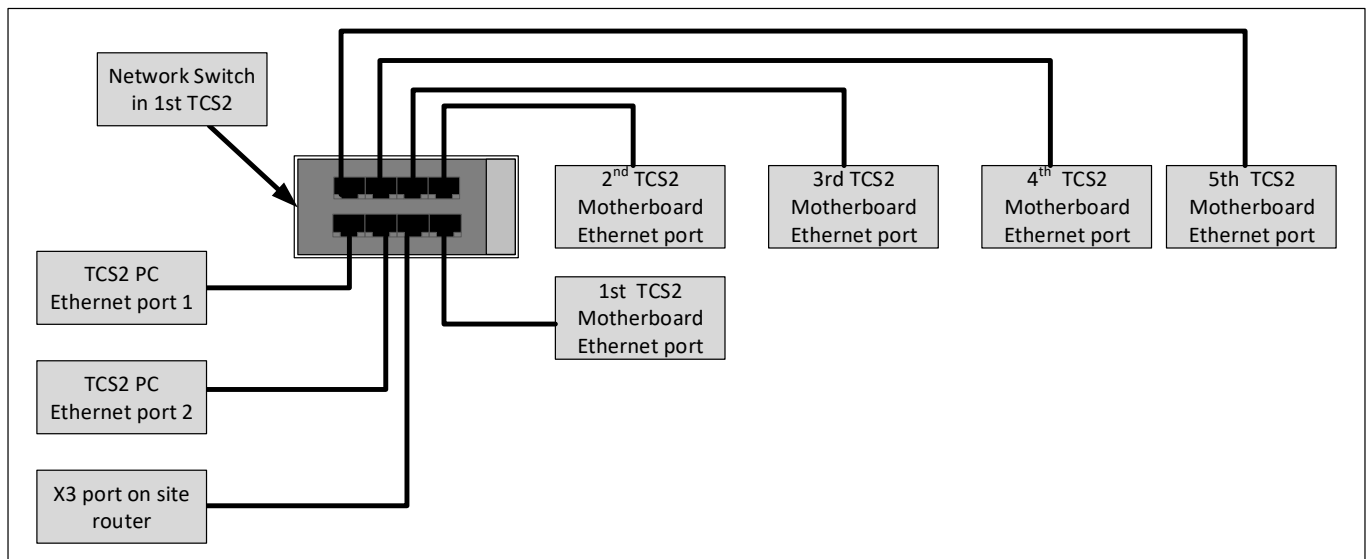

Figure 18: One Primary TCS2/One or More Secondary TCS2 Units
- See Figure 18: **One Primary TCS2/One or More Secondary TCS2 Units.**